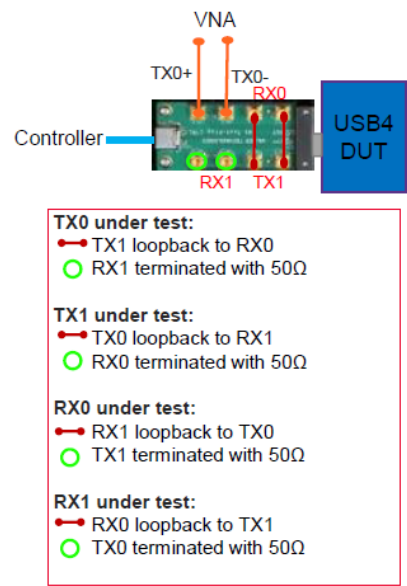

Figure 117 SMP test fixture - Tx/Rx lane switching
- 8 In case of SMP test fixture, Tx/Rx lane under test can be switched as shown in Figure 117.